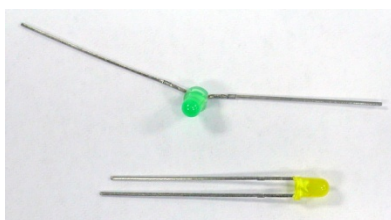

Figure 7: LED Cathode Is Shorter
4. Identify the cathode (negative) side of the red LED. There are four ways to identify the cathode (refer to Figure 7): 1) the wire on the cathode side is shorter, 2) there is a flat spot on the plastic by the cathode (shows clearly on the right of the green LED in Figure 7), 3) if you hold the diode up in front of a light, you will see a triangle...the wide side is attached to the cathode, and 4) if the diode doesn't flash when you do the experiment, it is probably backwards. Attach the diode to the spring clips so its cathode is to the left, toward the transistor.
6. Attach a Voltage Sensor to Analog Input A on the 850 as shown in Figure 7. Its black end should attach to the common ground coming from the 850 Output 1 black jack. Attach an alligator clip to the red end, clip it to a white wire and attach the white wire to a spring clip between the transistor emitter and the $1000\text{ }\Omega$ resistor. This Voltage Sensor will measure the voltage across the $1000\text{ }\Omega$ resistor. The current through the resistor will be calculated by dividing the voltage (V_A) by $1000\text{ }\Omega$.